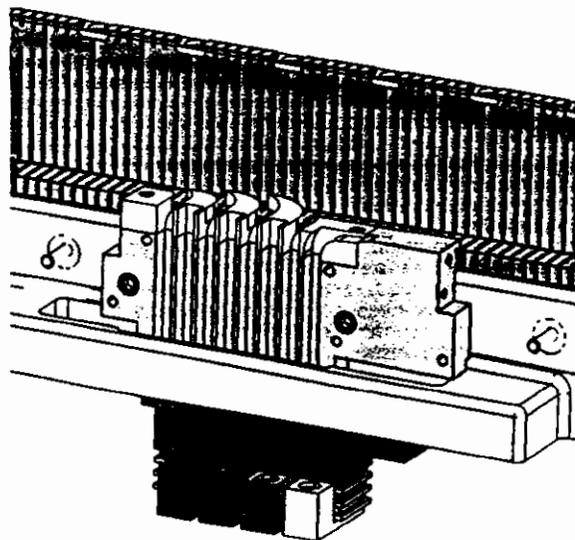

Figure 4- Lower Lead Guide Block
6.7.2 Figure 4- Lower Lead Guide Block